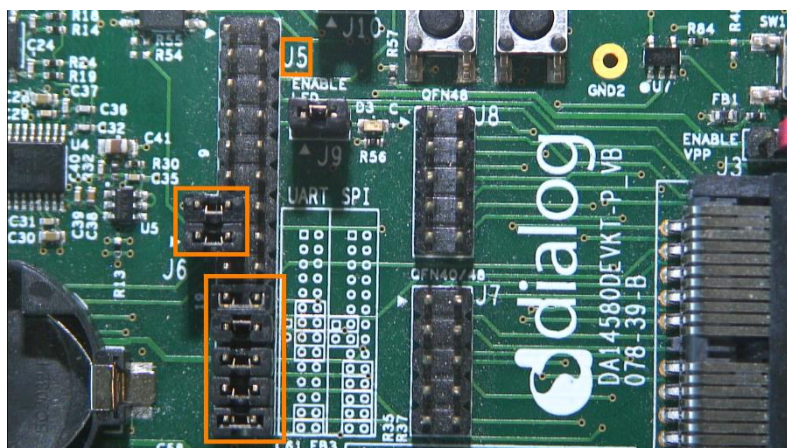

Figure 27: J5 Jumper setting for SPI flash programming
**Note:** SPI Flash (U8: See Figure 5) can also be used for downloading an image file (a .hex or .bin). for SPI flash programming steps using SmartSnippets Toolbox you can refer to UM-B-080: Section 6.8: SPI Flash Memory Example and for SPI flash programming Keil example you can refer to UM-B-083: Section 11: SPI Flash Programmer. The Figure 27 shows the Jumper setting for the J5 when using SPI configuration.